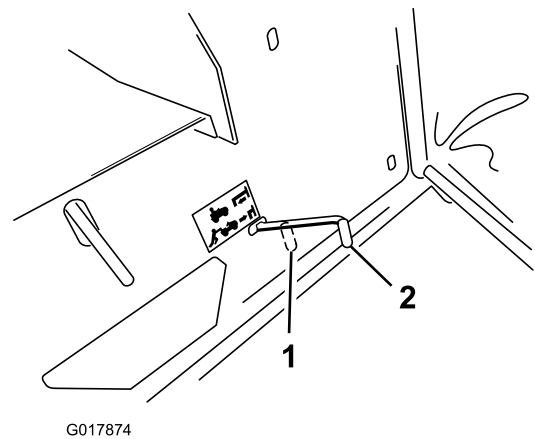

Figure 13
Note: This disengages the drive system and allows the wheels to turn freely (Figure 13).
2. Push the drive control into the Operate position (Figure 13) to engage the drive system.